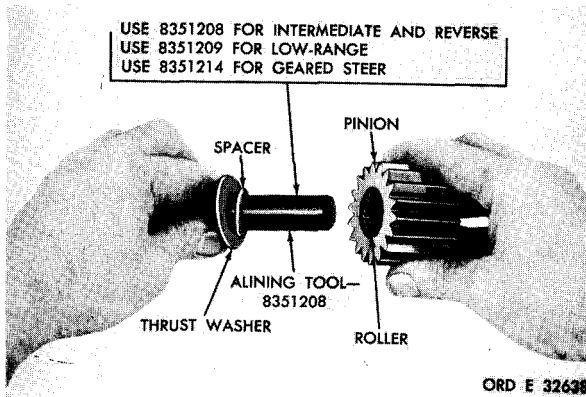

Figure 215. Assembling planetary carrier pinion components
b. Grease the inside diameter of planetary carrier pinion (fig. 215).
\*c. Insert 22 spindle rollers into one end of the pinion bore (fig. 215).
d. Place a thrust washer and spacer on alining tool 8351208 (fig. 215).
c. Insert 20 spindle rollers into the pinion bore. Refer to fig. 215.
d. Place a thrust washer and spacer on alining tool 8351209. Refer to fig. 215.